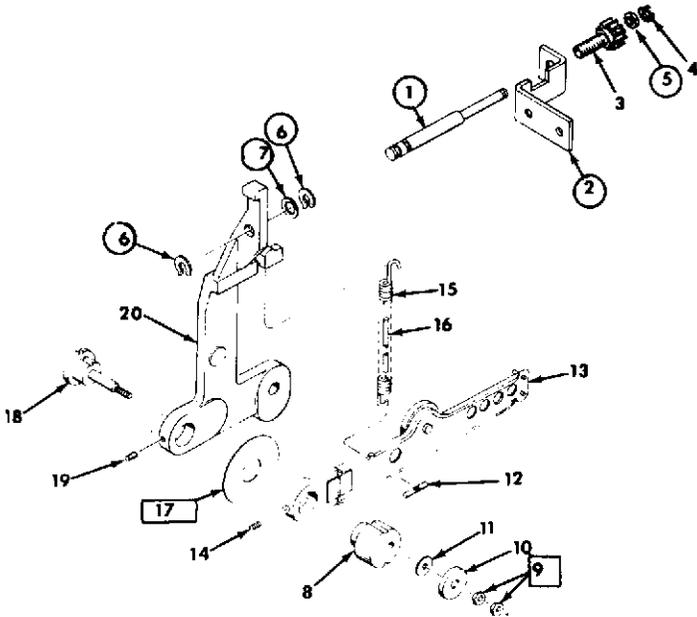

Figure 3-14. CLAW ARM COMPLETE
2. Claw Arm Complete (Fig. 3-14)
- a. Lubricate periphery of rod (1) and bearing surfaces of washers (5 and 7), ring (6), bracket (2) and spring loop groove of item (12) with DC-44 grease.
- b. Lubricate interfaces between claw arm assembly (13) and washer (17) with FS-1290 grease.
- c. Adjust nuts (9) to obtain minimum endplay of .001 to permit claw arm to pivot freely with framing arm before spring (15) is assembled.
- d. Apply Glyptal 7526 to nuts (9) and washer (10).